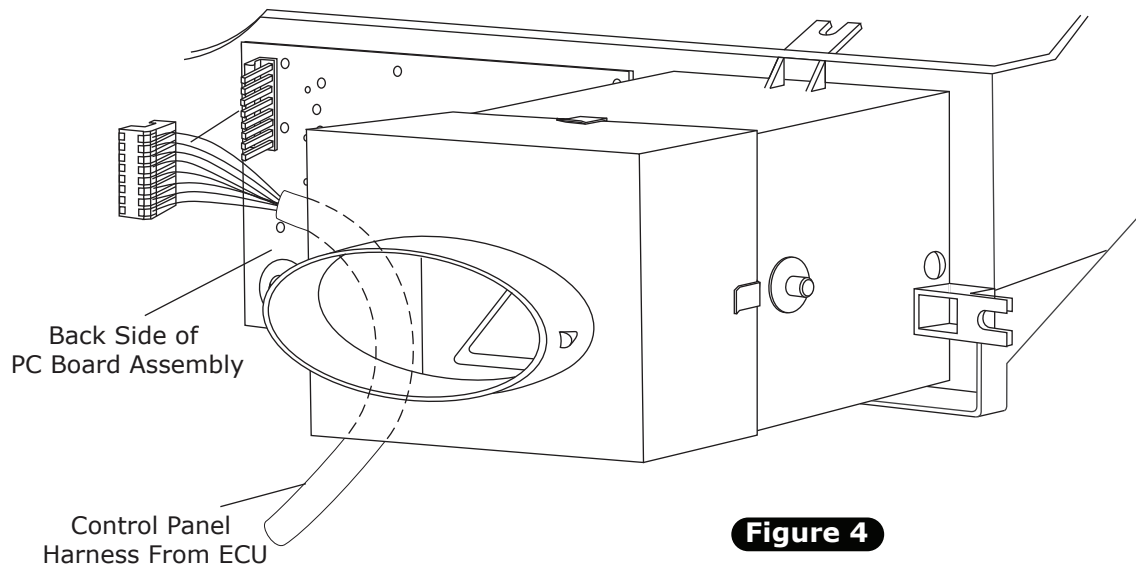

Figure 4
1. From under the dash, plug in the control panel wiring harness as shown in Figure 4, below.